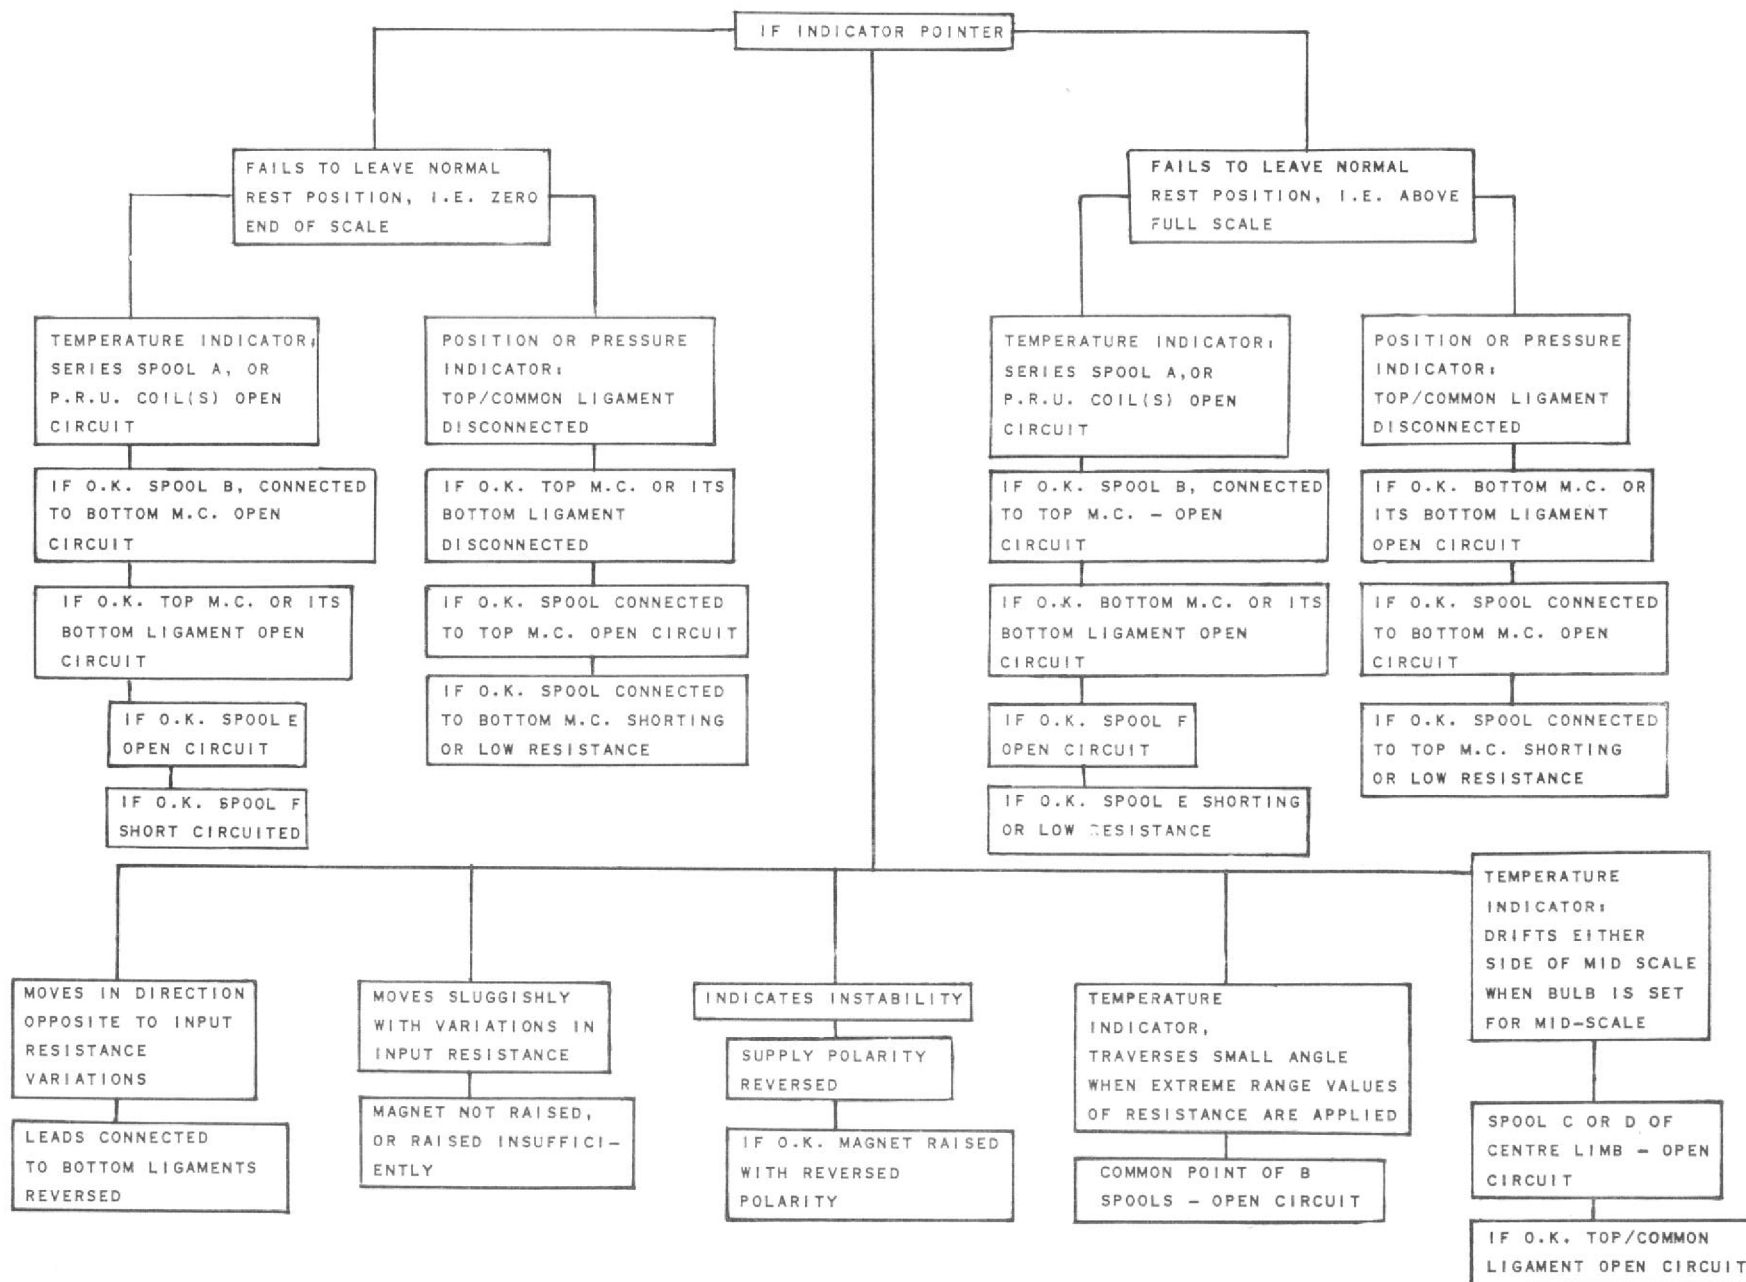

Fig. 7. Trouble shooting chart.
9. Trouble Shooting (Refer to Fig. 7.)